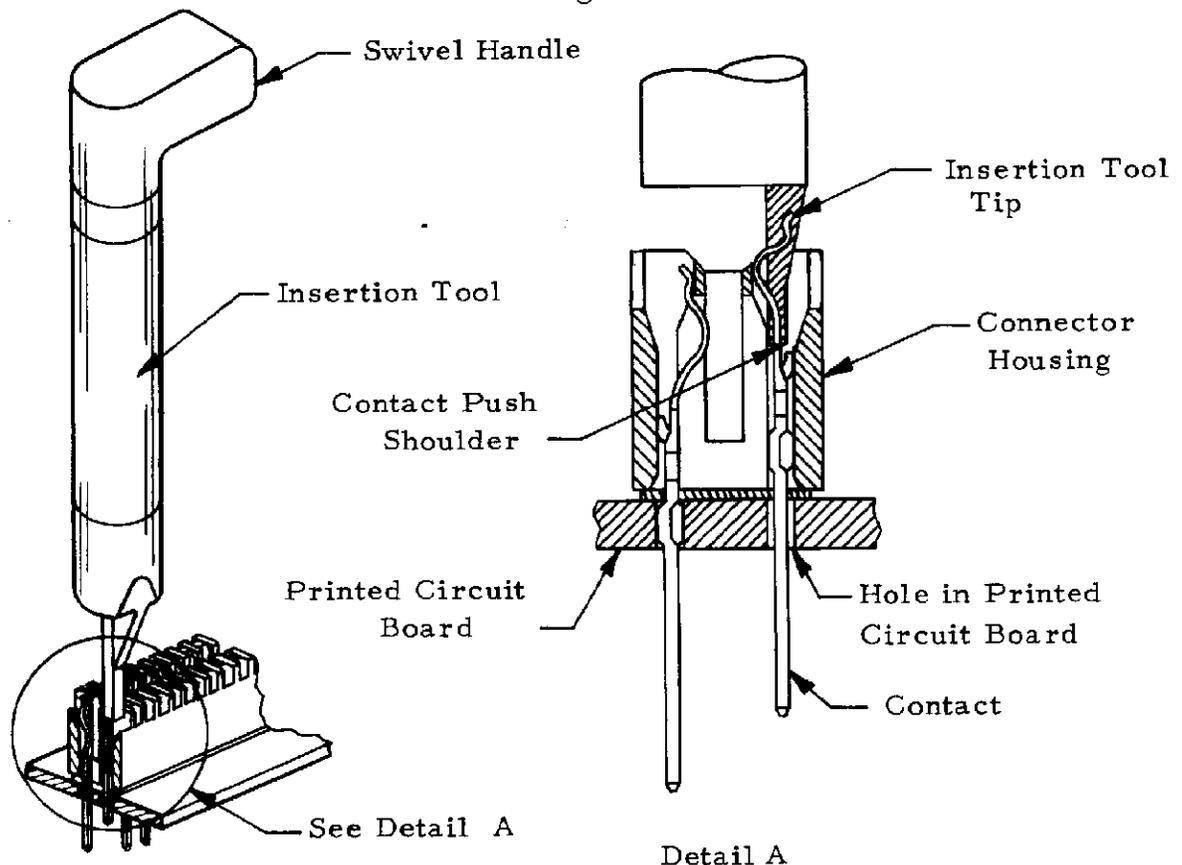

Figure 10
- (3) Position contact in insertion tool such that tip of tool is bottomed against push shoulder of contact.
- (4) Fit contact into connector housing and through hole in printed circuit board as indicated in Figure 10.